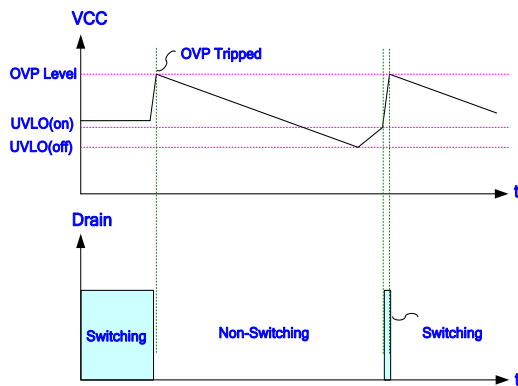

Fig. 20
LD9175 is implemented with OVP function through VCC. As the VCC voltage rises over the OVP threshold voltage, the output drive circuit will be shut off simultaneously thus to stop the switching of the power MOS until the next UVLO (ON) arrives. The VCC OVP function of LD9175 is an auto-recovery type protection. The Fig. 20 shows its operation. That is, if the OVP condition is removed, it will resume to normal output voltage and VCC level in normal condition.